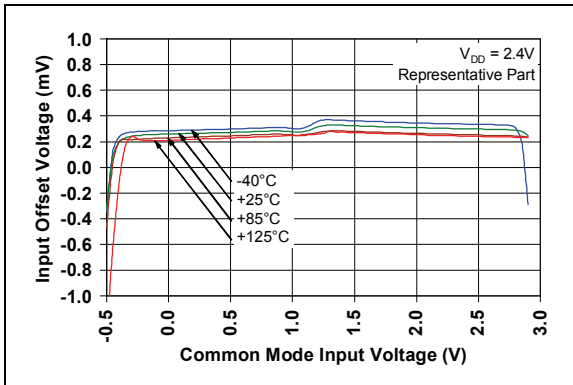

**FIGURE 1-1:** AC and DC Test Circuit for Most Specifications.
Electrical Characteristics: Unless otherwise indicated, $T_A = +25^{\circ}C$ , $V_{DD} = 5.0V$ , $V_{SS} = GND$ , $V_{CM} = V_{SS}$ , $V_{OUT} \approx V_{DD}/2$ , $V_L = V_{DD}/2$ and $R_L = 10$ k $\Omega$ to $V_L$ (refer to <a href="#">Figure 1-1</a> ).
**Electrical Characteristics:** Unless otherwise indicated,  $T_A = +25^\circ\text{C}$ ,  $V_{DD} = +5.0\text{V}$ ,  $V_{SS} = \text{GND}$ ,  $V_{CM} = V_{SS}$ ,  $V_{OUT} \approx V_{DD}/2$ ,  $V_L = V_{DD}/2$ ,  $R_L = 10\text{ k}\Omega$  to  $V_L$  and  $C_L = 60\text{ pF}$  (refer to Figure 1-1).
The circuit used for most DC and AC tests is shown in Figure 1-1. This circuit can independently set  $V_{CM}$  and  $V_{OUT}$ ; see Equation 1-1. Note that  $V_{CM}$  is not the circuit's common mode voltage ( $(V_P + V_M)/2$ ), and that  $V_{OST}$  includes  $V_{OS}$  plus the effects (on the input offset error,  $V_{OST}$ ) of temperature, CMRR, PSRR and  $A_{OL}$ .